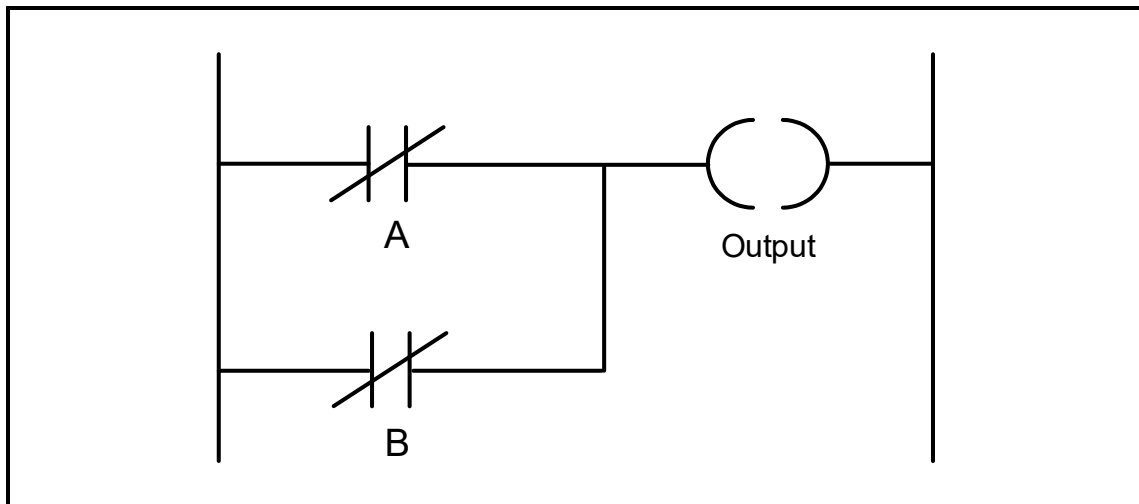

FIGURE 7.6: PLC LOGIC FUNCTION
7.6 Refer to FIGURE 7.6 below and answer the questions that follow.
7.6.1 Draw the equivalent logic symbol of FIGURE 7.6 above. (3)